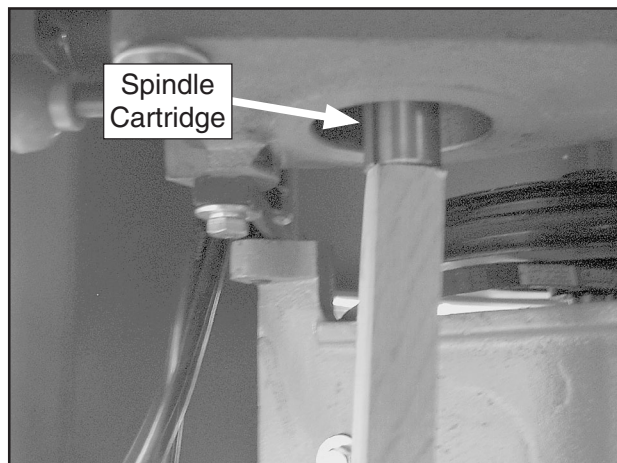

Figure 61. Forcing the spindle cartridge up.
9. Place the 23" long 2x4 under the spindle cartridge, as shown in **Figure 61**, then use the height handwheel to lower the spindle housing until the cartridge is pushed up and can be removed from the top of the table.